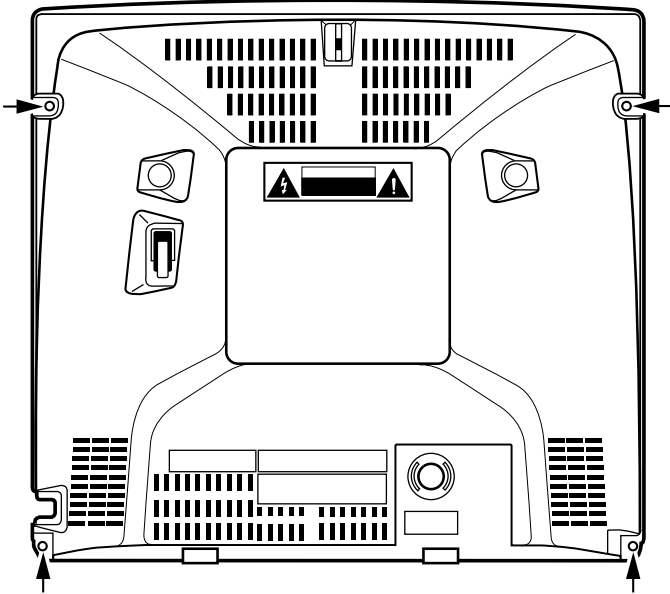

Figure 1. Cabinet Back Removal
1. Refer to Figure 1, remove 4 screws.